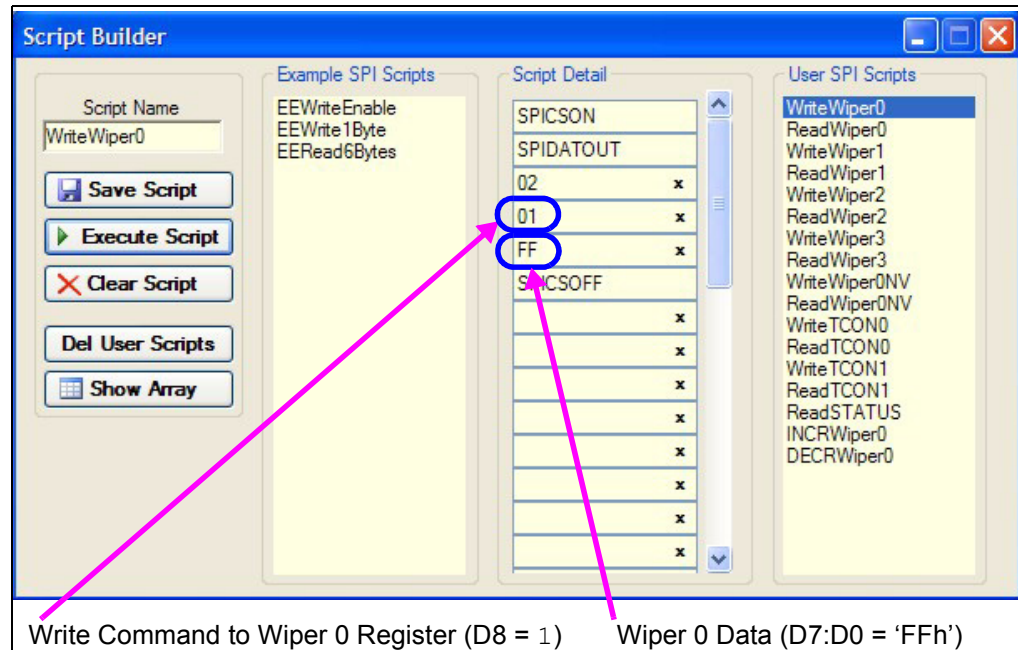

FIGURE 2-12: MCP42XX Write Wiper 0 Script File – Updating Wiper Value.
13. Double click on the “WriteWiper0” script in the Example SPI Scripts column. This loads the Script Detail column and modifies the Wiper 0 data to 1FFh (see Figure 2-12).